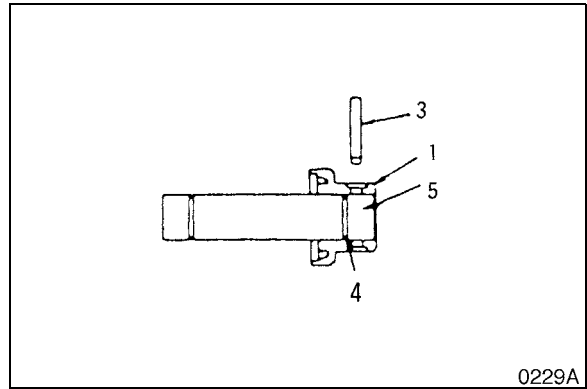

Figure 24
1. Degrease, clean and dry all parts before reassembly. Insert bushing (8, Figure 24) into the idler (7).
2. Grease O-ring (4, Figure 24) and insert it into the axle.
3. Align the bearing (1, Figure 24) and axle (5) holes and pin (3) them together.